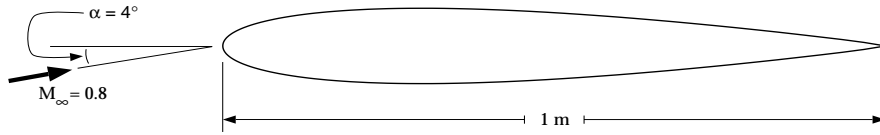

Figure 3.1: Problem Specification
**Problem Description:** The problem considers the flow around an airfoil at an incidence angle of  $\alpha = 4^\circ$  and a free stream Mach number of 0.8 ( $M_\infty = 0.8$ ). This flow is transonic, and has a fairly strong shock near the mid-chord ( $x/c = 0.45$ ) on the upper (suction) side. The chord length is 1 m. The geometry of the airfoil is shown in Figure 3.1.